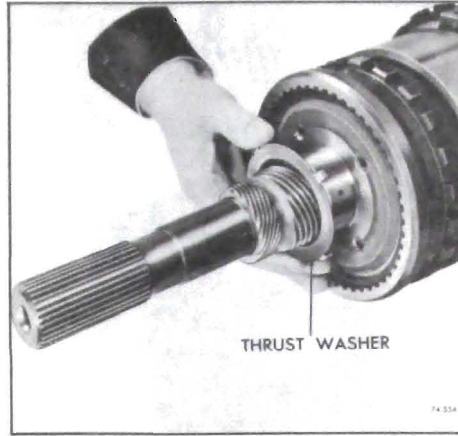

Figure 76-554
16. Remove output shaft to case thrust washer from rear of the output shaft or inside case. See Figure 76-554.